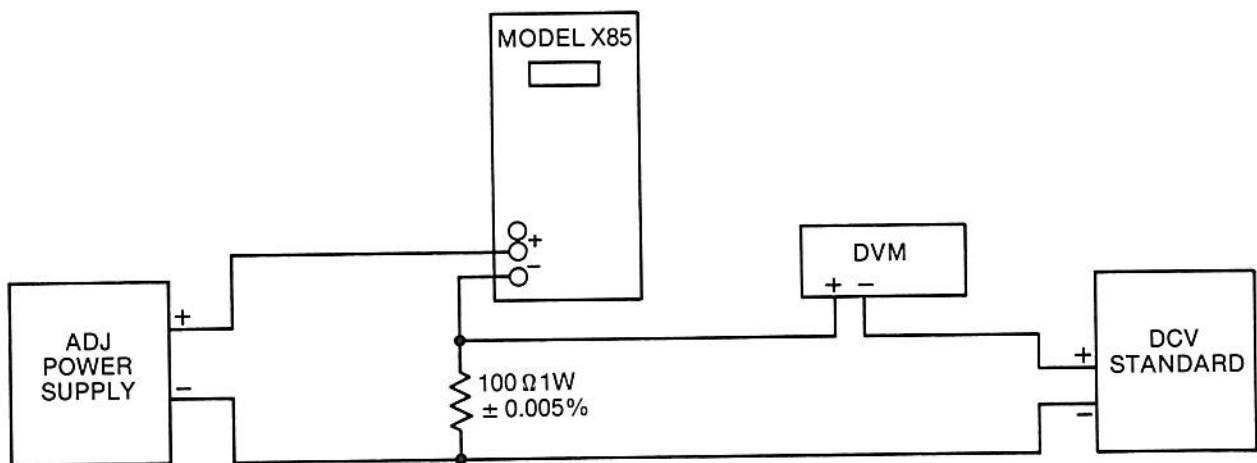

FIGURE 5-3
- 5.3.3.1 Connect the X85 calibrator and the DC voltage standard as shown in Figure 5-3.